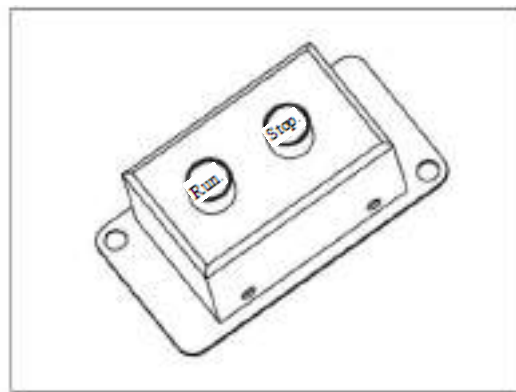

Figure 4-10 Fuel control box
b). Press the green "Run" button on the refueling control box (Figure 4-10), and the refueling pump will enter into automatic refueling control state. The refueling pump will cut off automatically when the fuel tank is filled and then the entire refueling process ends.